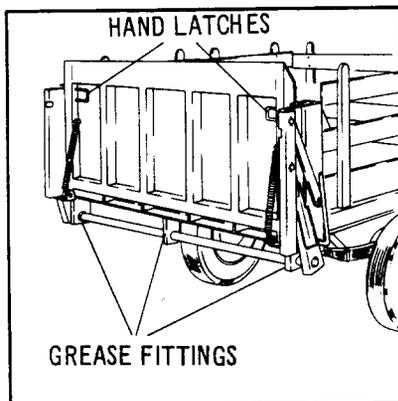
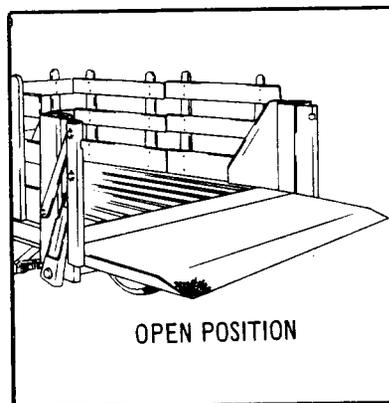

Fig. 9
Fig. 10
12.01 To open platform, release hand latches (Fig. 9) by pulling both inward; then platform can be lowered manually to "horizontal" (or "open") position (Fig. 10).